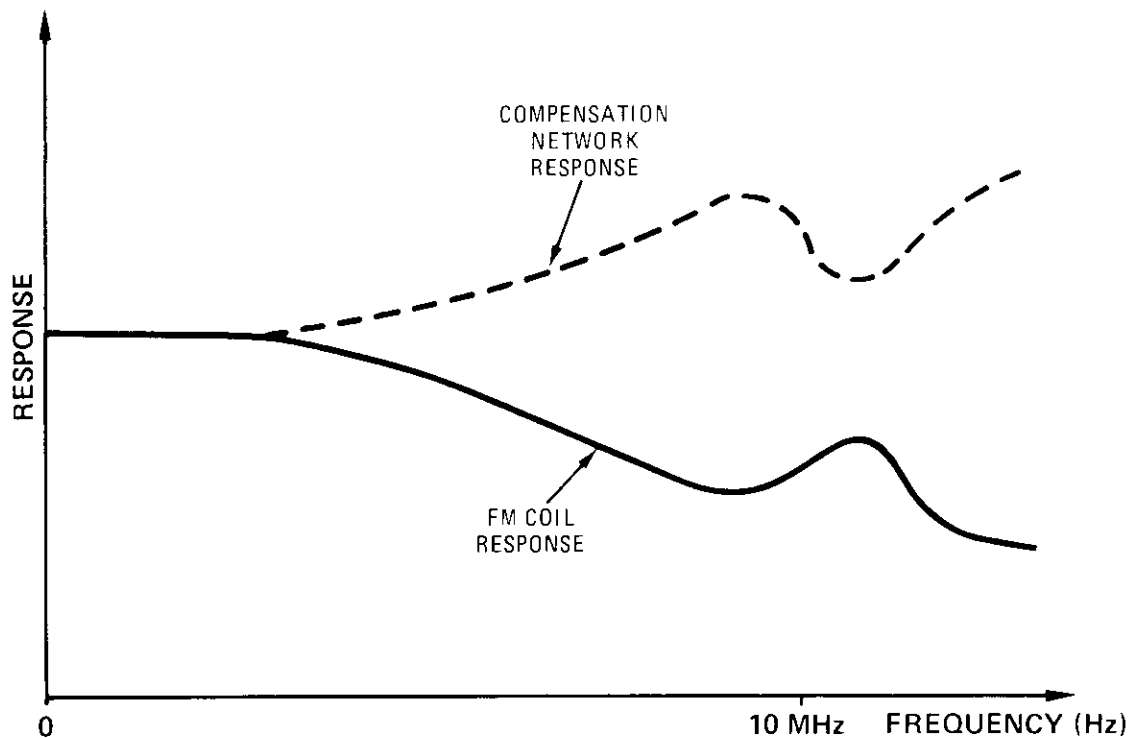

Figure 8-39. Plot of FM Coil Response Versus Frequency
The output of the filter network is limited to about  $\pm 3$ V with a network made up of VR1, VR2, R14, R15, CR3, and CR4. Q5A and Q5B are connected as emitter followers and buffer the output of the filter network to video amplifier U10. Analog switch U11 is always set to switch position zero. Frequency response shaping to compensate for the roll-off versus frequency of the FM coil is produced by the network made up of C11, C12, C14, R21, R22, R23, R75, and L1 connected across pins 9 and 4 of U10. This network is actually in the emitter of the input differential amplifier of U10 producing greater gain with decreasing impedance. Figure 8-39 shows the approximate response versus frequency of the YO FM coil and the compensation network. Adjustments R19 (FM OFFSET), R75 (H1), and C14 (LO) adjust the shape of the compensation network response.